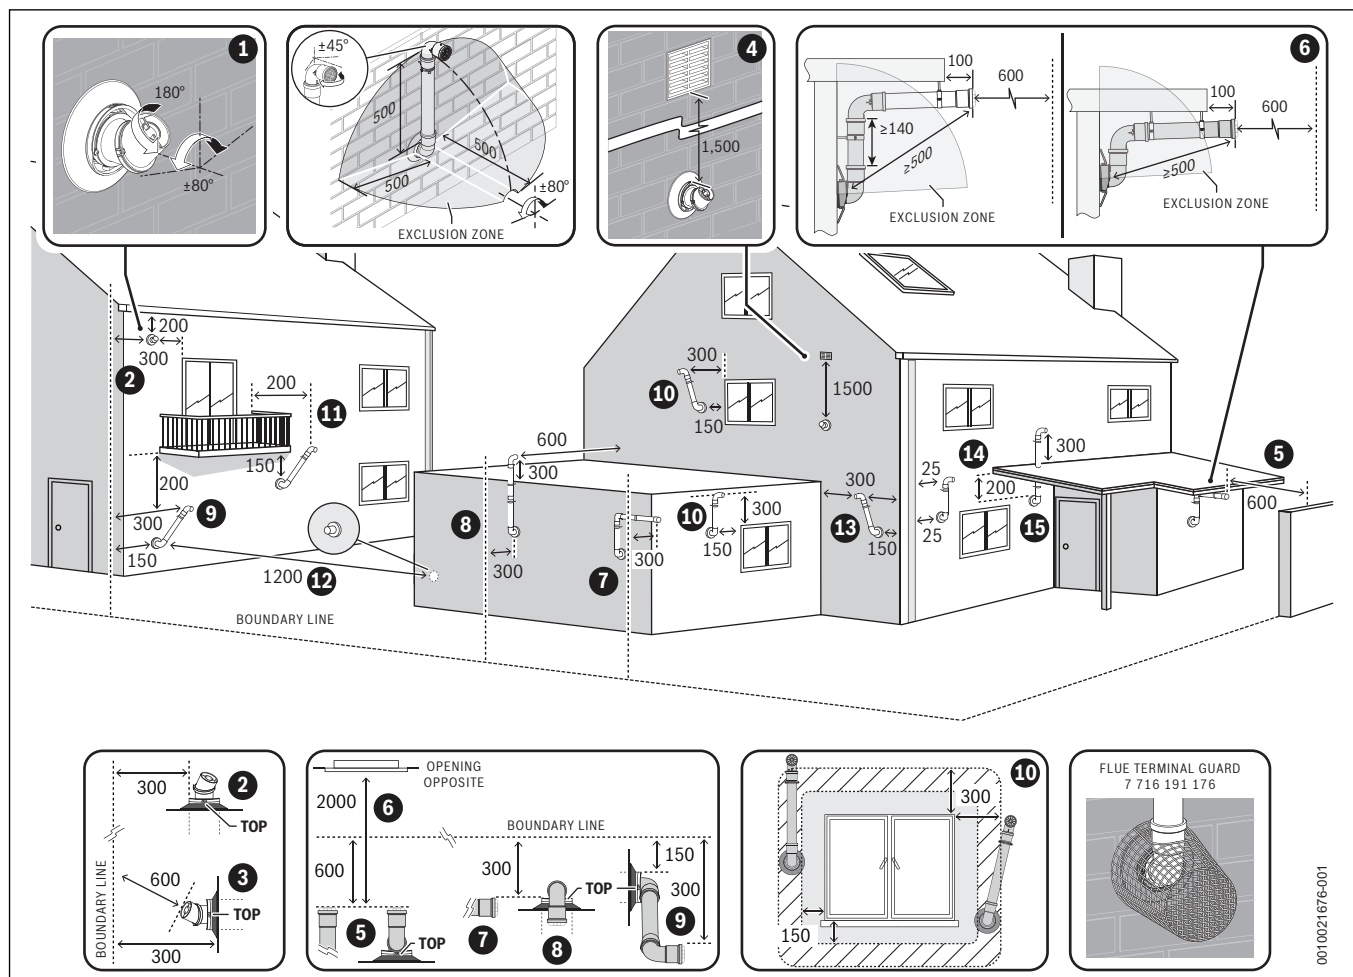

Fig. 28 Plume re-redirect and plume management terminal positions
- ▶ Refer to "Horizontal flue terminal positions" for all concentric flue terminal positions unless the flue position is specified in figure 28 "Plume re-redirect and plume management terminal positions".
**Key to figure 28 - Plume re-direct terminal positions:**
**Key to figure 28 - Plume management terminal positions:**